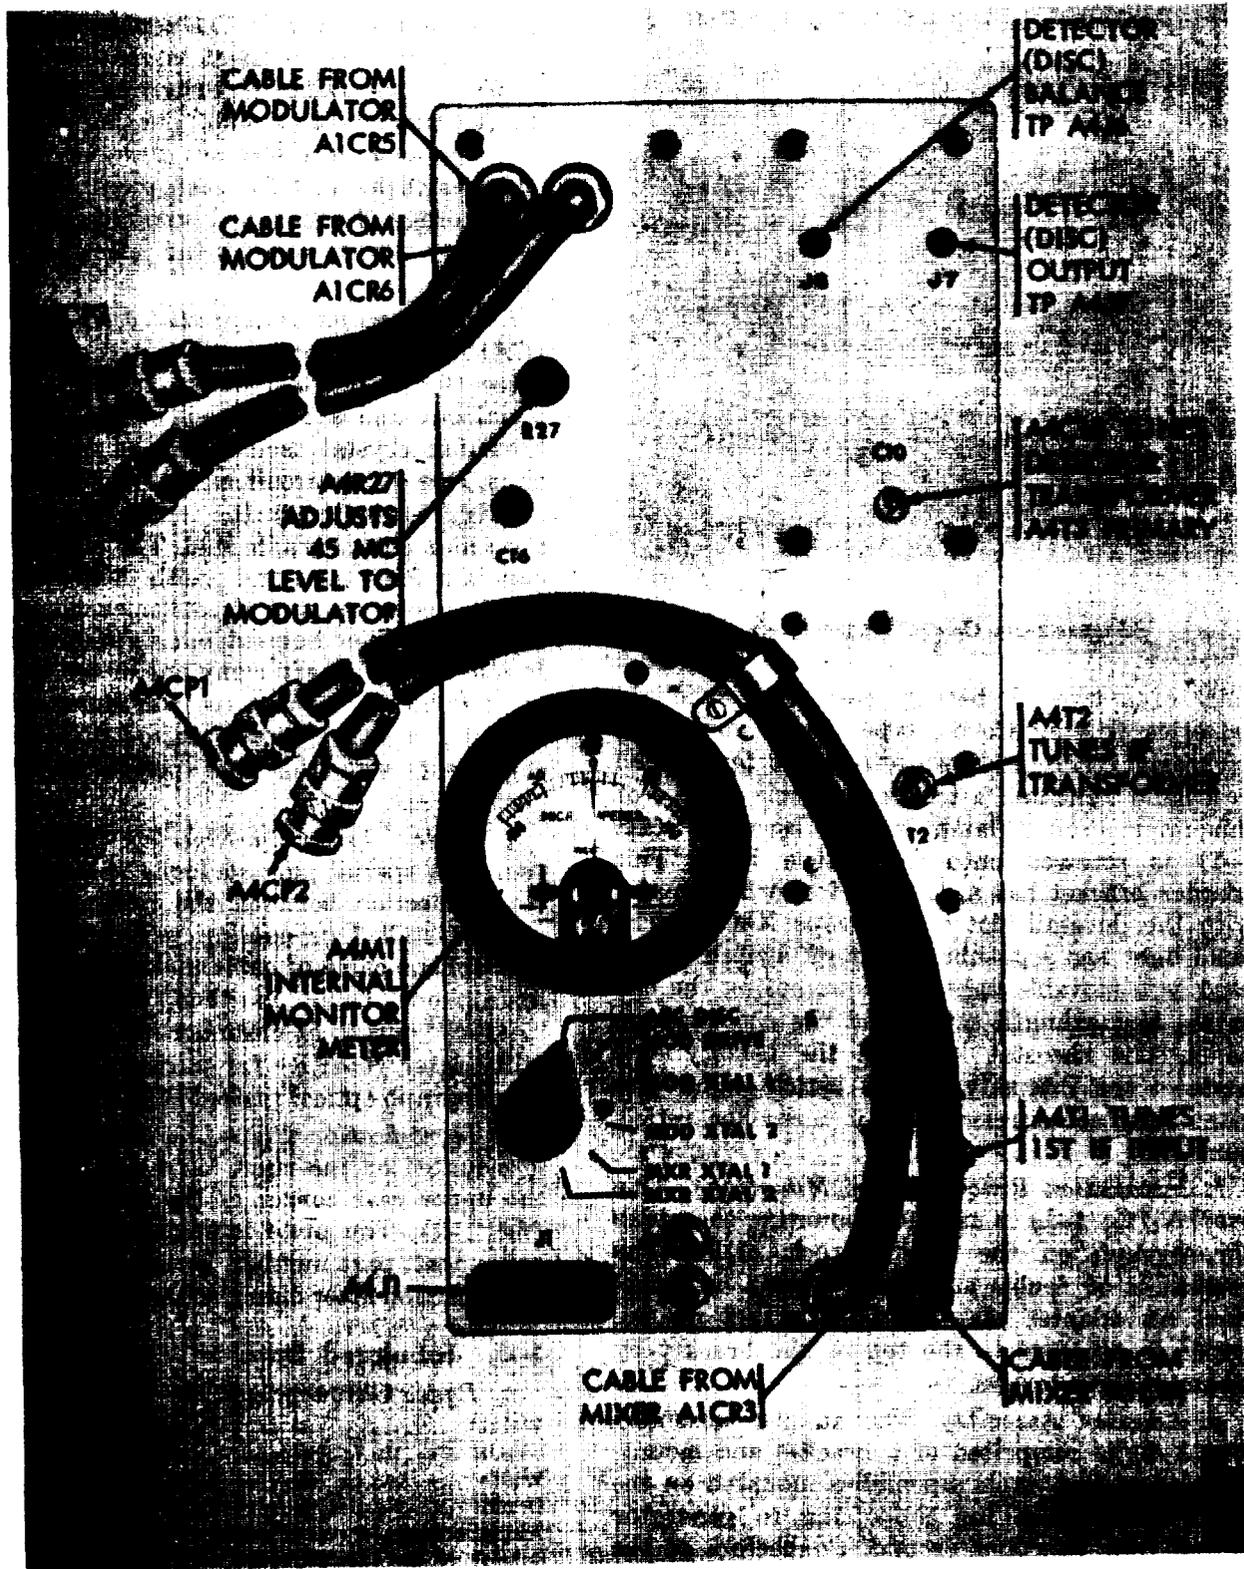

Figure 1-11. Amplifier detector A4.
h. Amplifier Detector A4 (fig. 1-11). This assembly is located in the right hand side of the front case section. On the panel of this assembly is the A4M1 internal monitor meter and selector switch. Electrical connections are made through connector A4J1 located on the lower left hand side of the panel, and four coaxial cables which carry signals to and from the waveguide assembly A1.